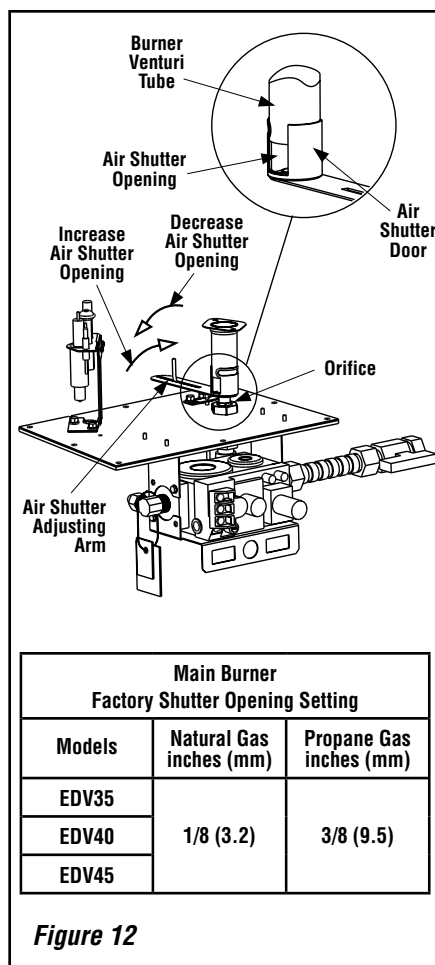

Figure 12
1. Refer to **Figures 9, 10 and 11** for proper flame appearance. To adjust the flame, rotate the adjustment rod toward the back or toward the front of the fireplace (rod located in the lower control area). Position the air shutter to the factory setting as shown in the table in **Figure 12**.